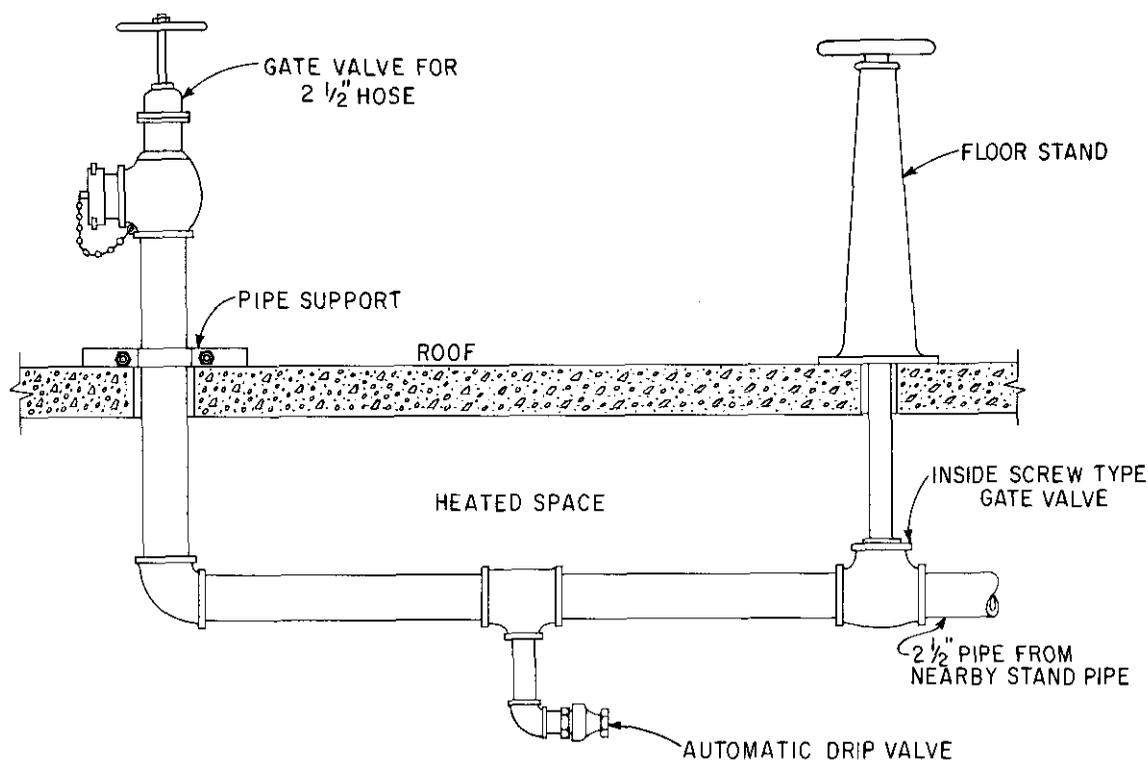

Fig. 1
2.13 Hose Connection on Roof: Hose connections on the roof are not provided on first aid standpipe systems. If combustibles are on the roof and a combined standpipe system is in use, the standpipes are extended through the roof and outlet valves are installed. The hose connection should preferably be located in a heated space such as a penthouse. If this is not feasible, then an arrangement such as shown in Fig. 1 may be used. The automatic drip valve is provided to prevent freezing. Municipal regulations